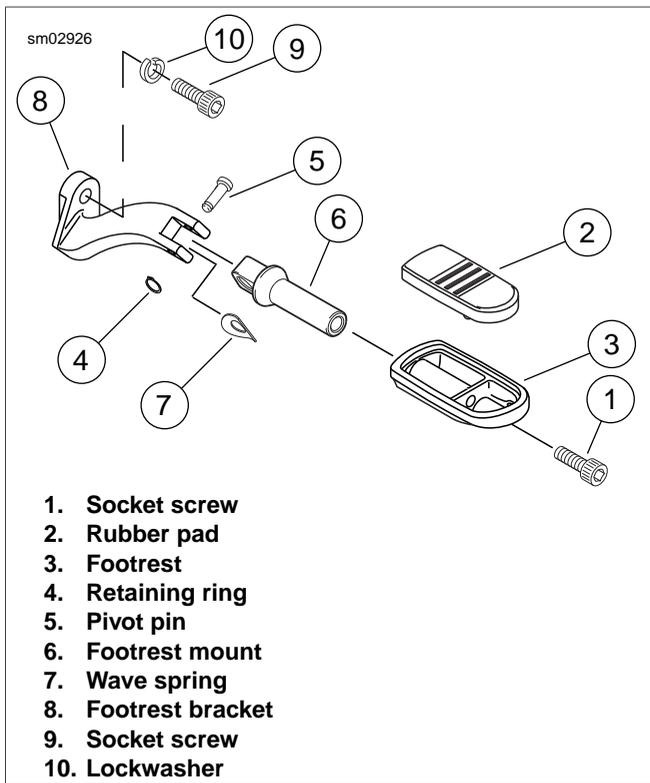

Figure 2-177. Passenger Footrest (FLHX)
1. Remove socket screw from end of footrest. Remove rubber pad from footrest. See Figure 2-177.
2. Align hole in wave spring with bottom hole in footrest bracket. See Figure 2-177. Be sure that the concave side is down and the flat edge is against the inboard side of the footrest bracket.